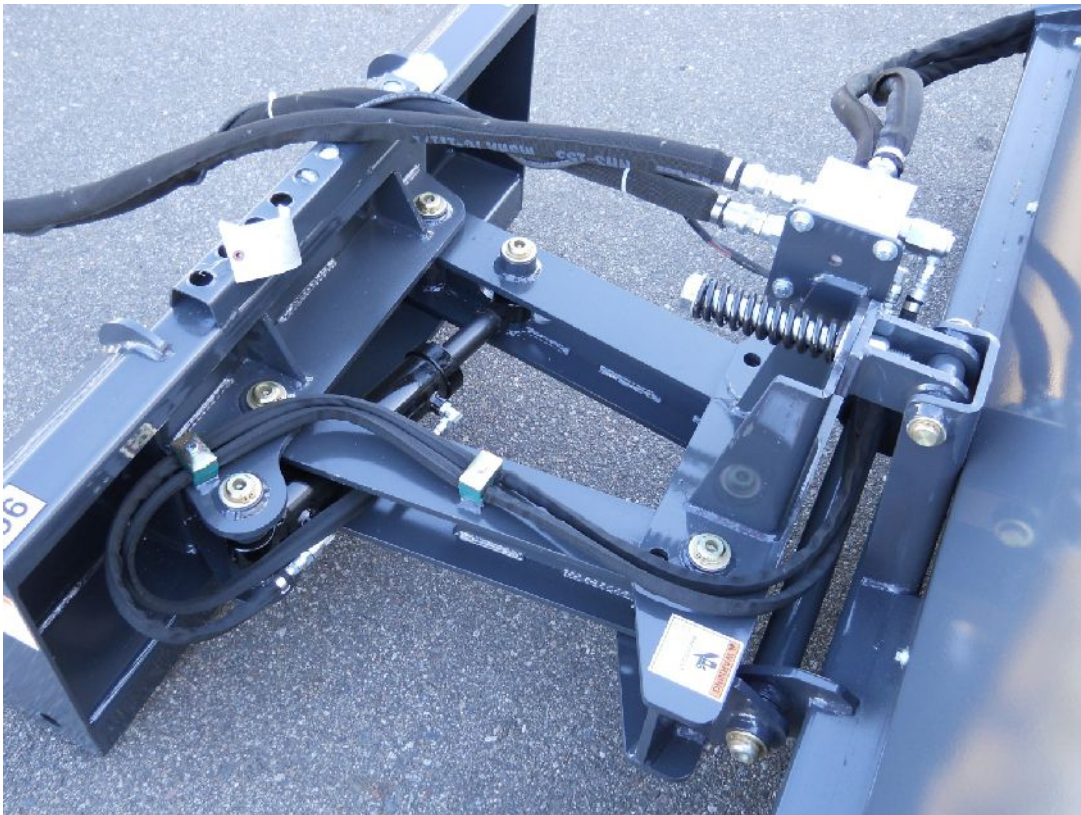

Figure 2: Cylinder Mounting and Hose Routing
- Install the hydraulic cylinder (Part # 6682PP) using the pins, washers and snap rings provided (Part #'s 2137VP, 1094PP and 1095PP). The hydraulic cylinder should be orientated so that the fittings are facing forward, away from the operator. See Figure 2.
port C2 on the manifold. Route the hoses as shown in Figure 2 and secure with clamps (Part # 1067PP) and 5/16" bolts (Part # 1117PP).